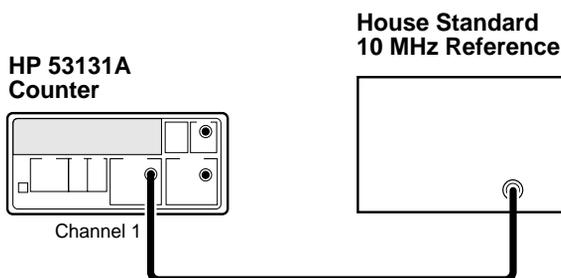

Figure 2-4. Standard Timebase Calibration Setup
1 Connect the output of a 10 MHz house standard to Channel 1 of the Counter as shown in Figure 2-4.
- 1 Connect the output of a 10 MHz house standard to Channel 1 of the Counter as shown in Figure 2-4.**